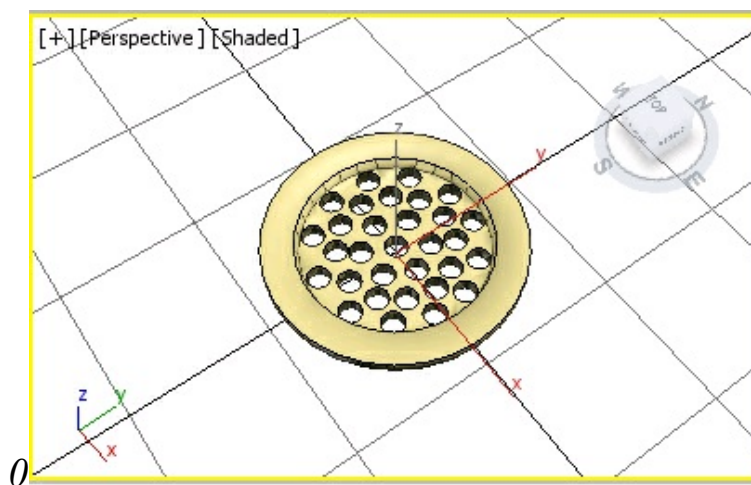

Figure 10-67 A sieve created in the Perspective viewport
9. Select *sieve* in the Top viewport and choose the **ProBoolean** tool from **Create > Geometry > Compound Objects** in the **Command Panel**. In the **Pick Boolean** rollout, choose the **Start Picking** button and click on the cylinders in any viewport one-by-one. Next, right-click to exit the command; a *sieve* is created, as shown in Figure 10-67.